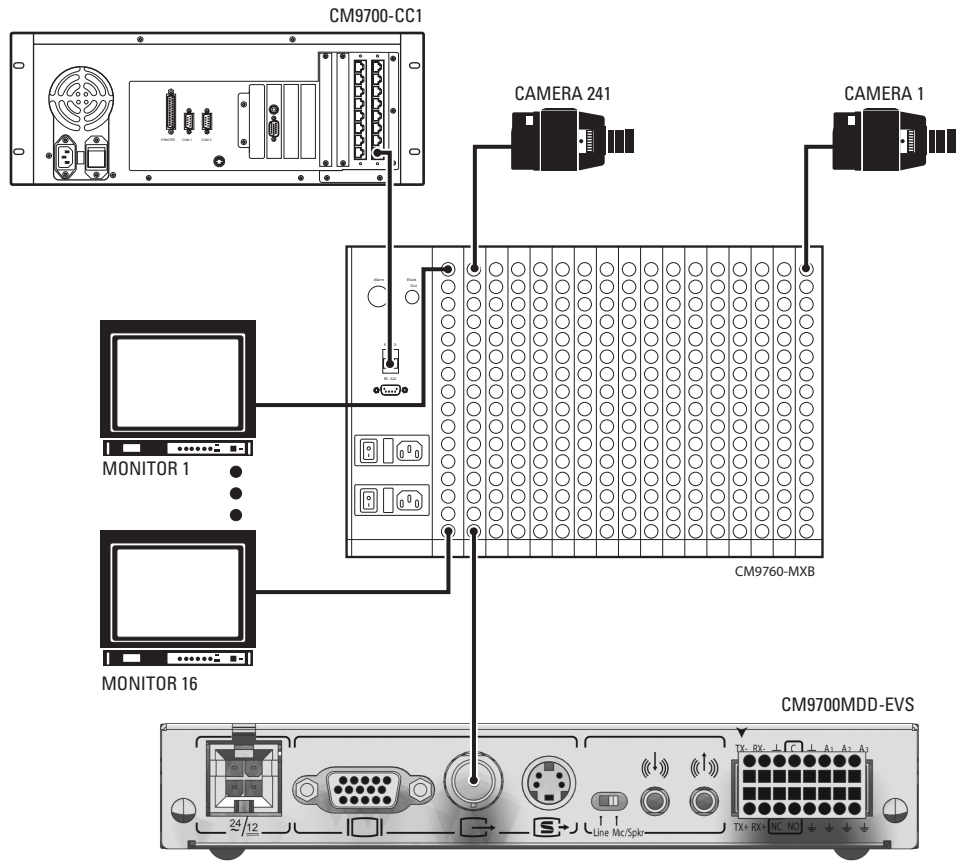

Figure 13. Sample Video Connection Between the CM9700MDD-EVS and the CM9760-MXB
- In a System 9760, video input connectors are on the CM9760-MXB rear panel, as shown in Figure 13
NOTE: Figure 13 illustrates a sample video connection. Video from the CM9700MDD-EVS can be connected to any unused input on the matrix bay.